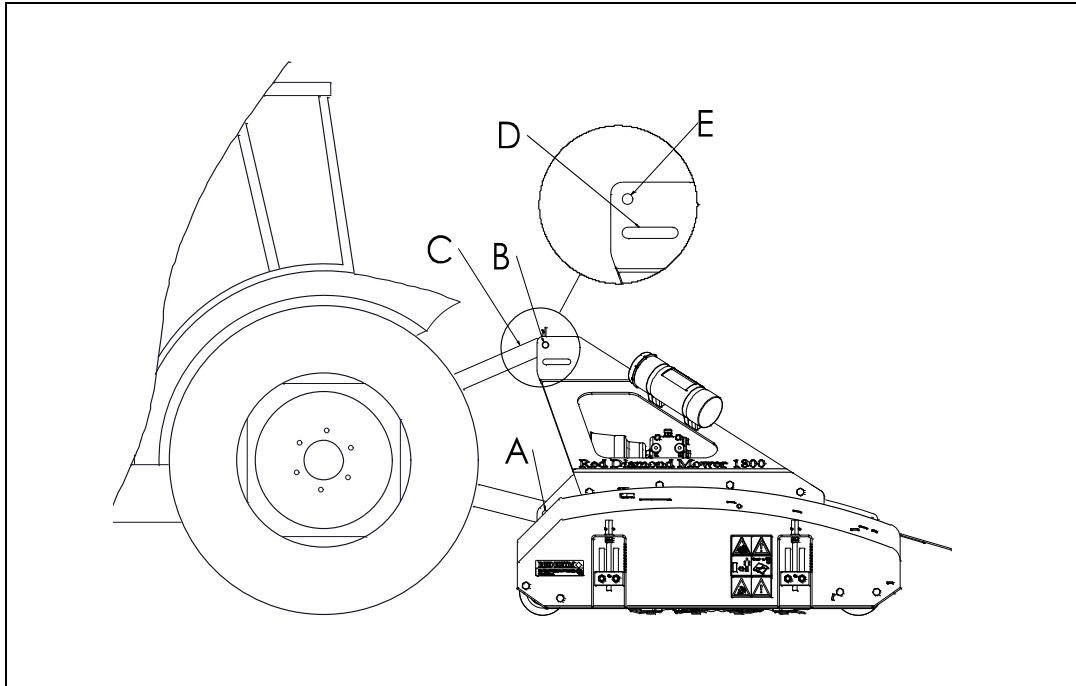

Figure 9
The procedure is as follows: (see Figure 9)
Make sure that the uppermost top rod is attached and is pressurized in the transport position (position E)! See Chapter 4.0, figure 9. If this is not done, the machine can incur serious damage.
5. If required, the top rod can be placed in the slotted hole D in the towing position (see Chapter 4.0, figure 9).